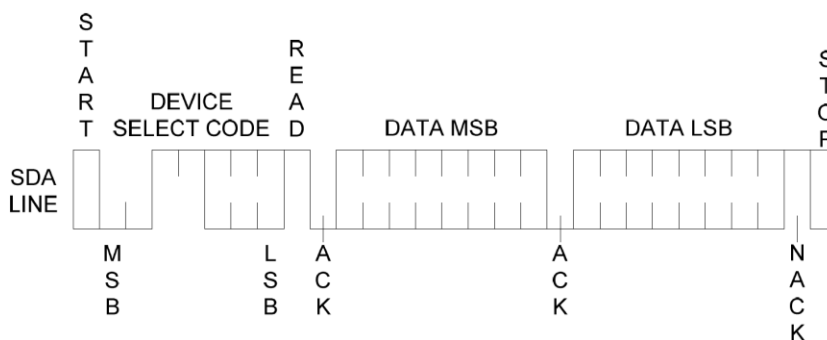

Figure 17. Preset Pointer Register Word Read
1. If the location latched in the pointer register is correct (most of the time, it is expected that the pointer register will point to one of the read temperature registers because that will be the data most frequently read), then the Read can simply consist of an Device Select Code byte, followed by retrieval of the two Data bytes. See the Figure 17.